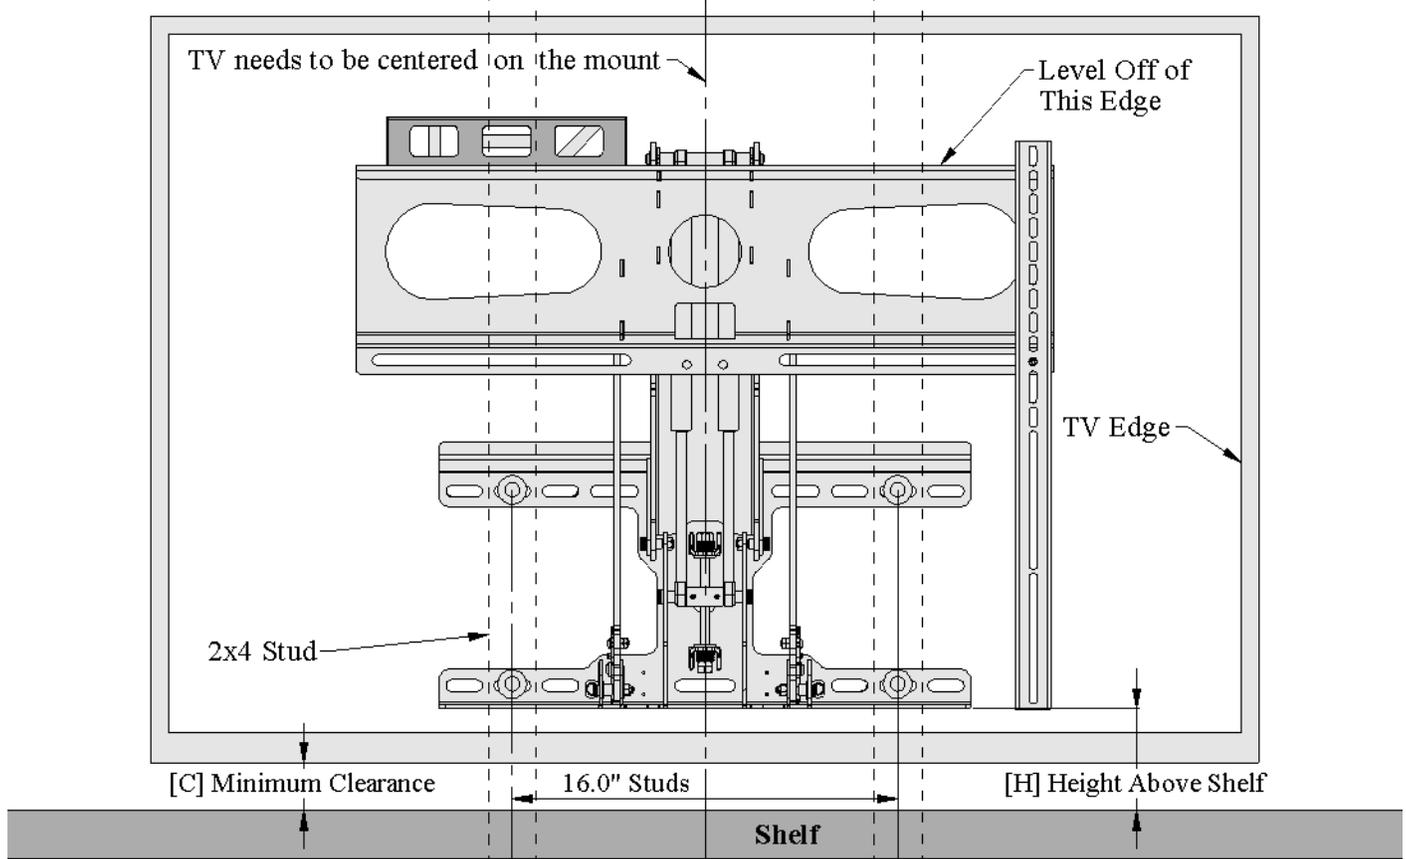

Figure 6, Positioning Mount on the Wall
- **The TV isn't level in all positions.** When attaching to the wall, level off of the Hook Plate Edge, NOT the plate that attaches to the wall, see Figure 6 on page 5.
7. Level the mount as shown in Figure 6.
The TV Clearance Table shows the minimum clearance [C] needed between the shelf top and the bottom of the TV (or the bottom of an attached speaker, whichever is lower) for the mount to swing around the shelf. To find the clearance needed, find the shelf depth [D], in this example 8", and go down the column and find the corresponding minimum clearance height [C], which is 2.5". Figure 6 shows where to measure [C] and [H].